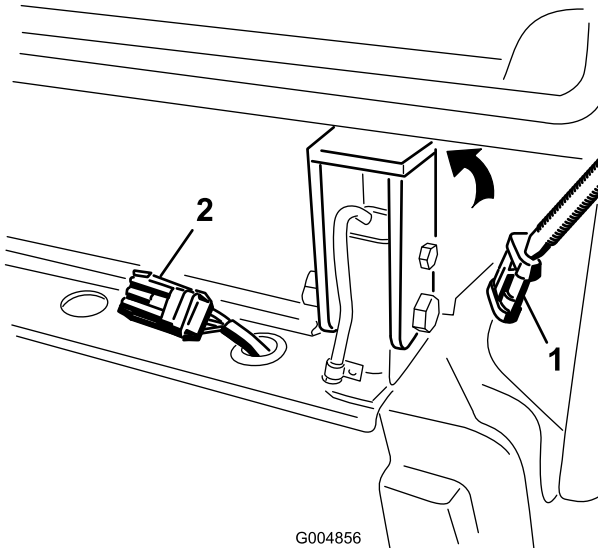

Figure 77
17. Unplug the cab harness connector (Figure 77) and install the cap onto the connector.